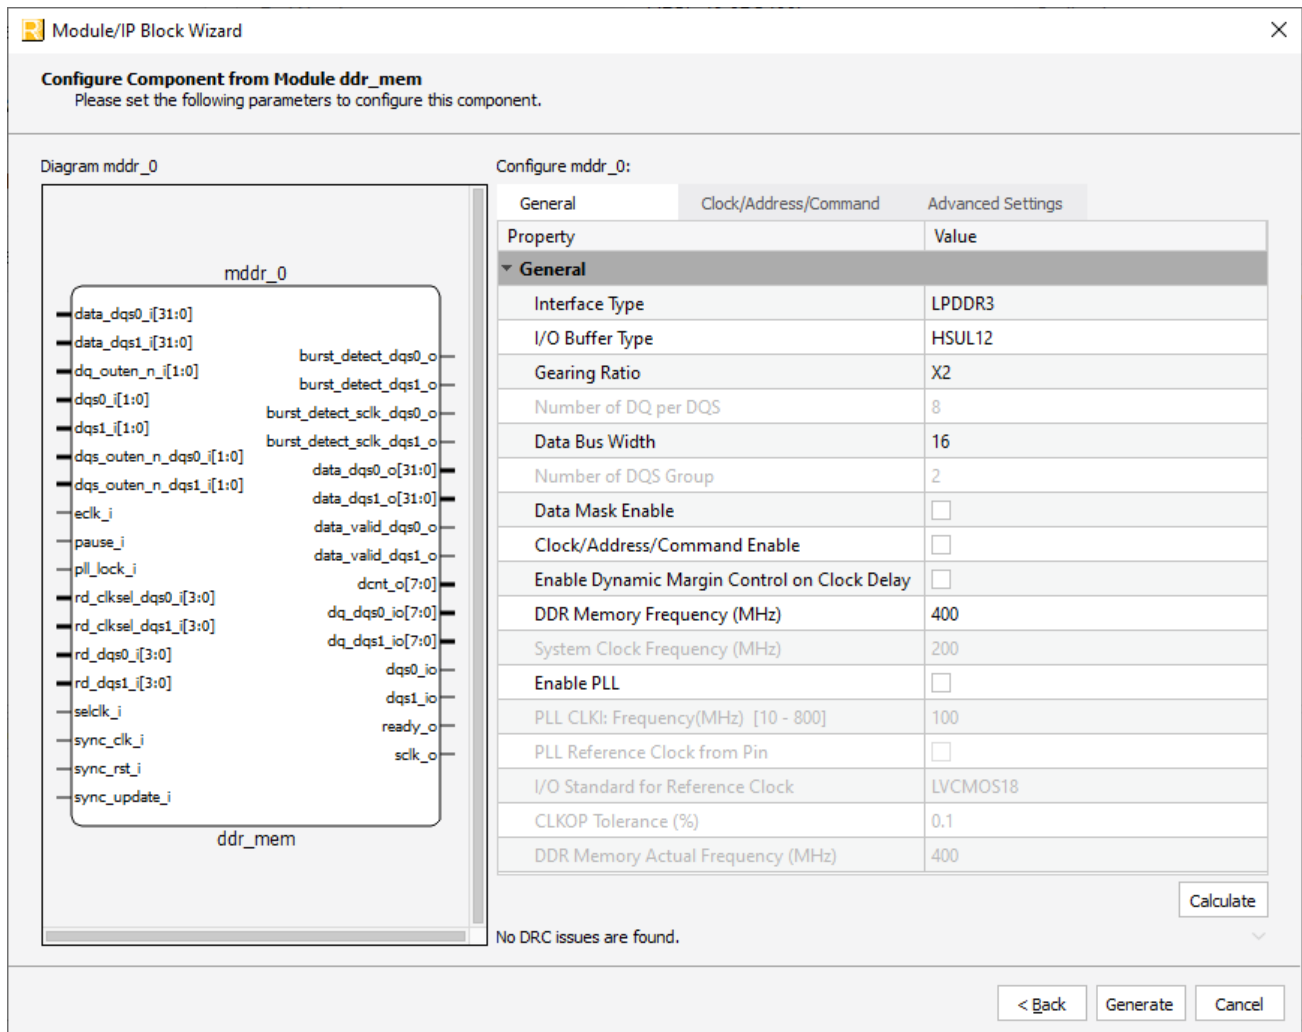
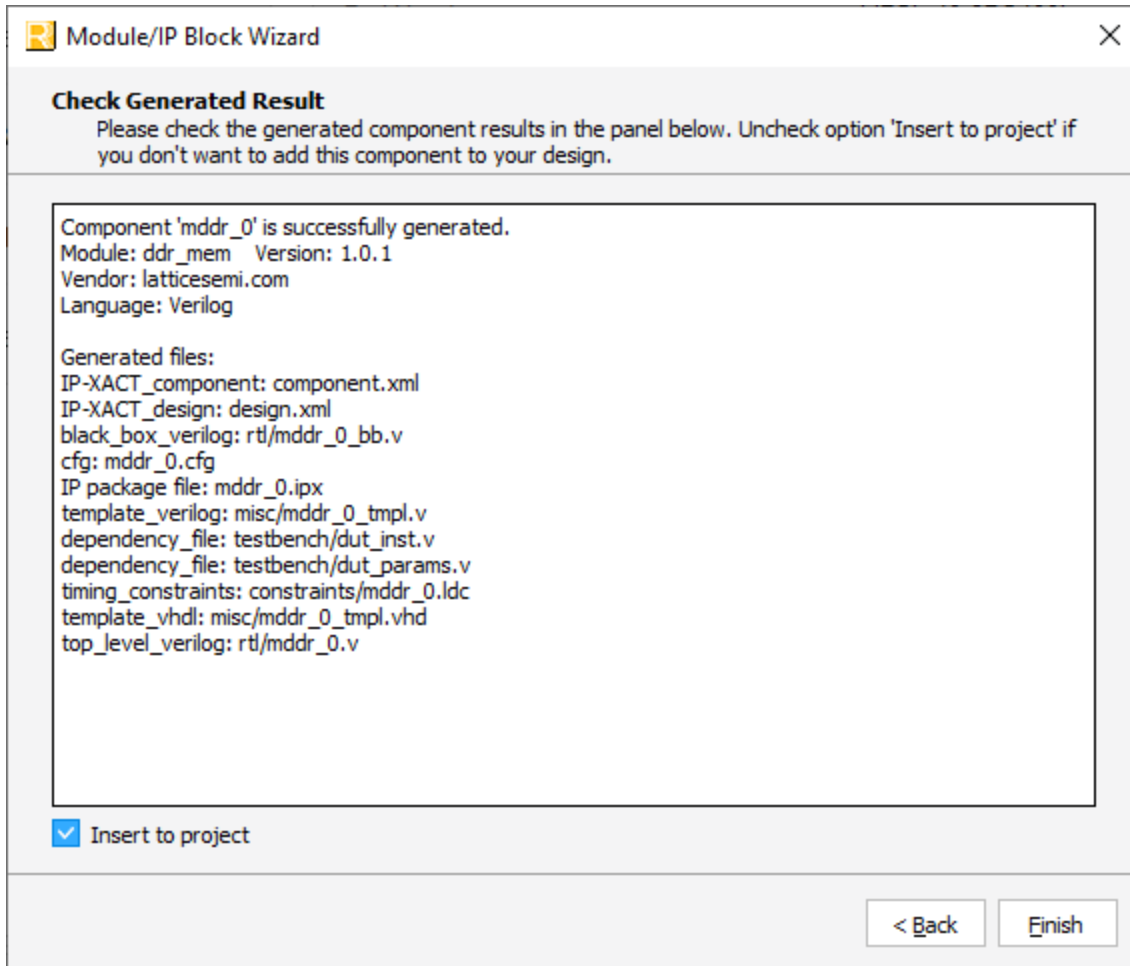

Figure 3.1. Configure Block of DDR Memory Module
Figure 3.2. Check Generating Result
2. In the dialog box of the Module/IP Block Wizard window, configure DDR Memory module according to custom specifications using drop-down menus and check boxes. As a sample configuration, see Figure 3.1. For configuration options, see Table 2.4.
3. Click **Generate**. The Check Generating Result dialog box opens, showing design block messages and results as shown in Figure 3.2.
Generating and Synthesizing the IP	Updated <a href="#">Figure 3.1</a> and <a href="#">Figure 3.2</a> .